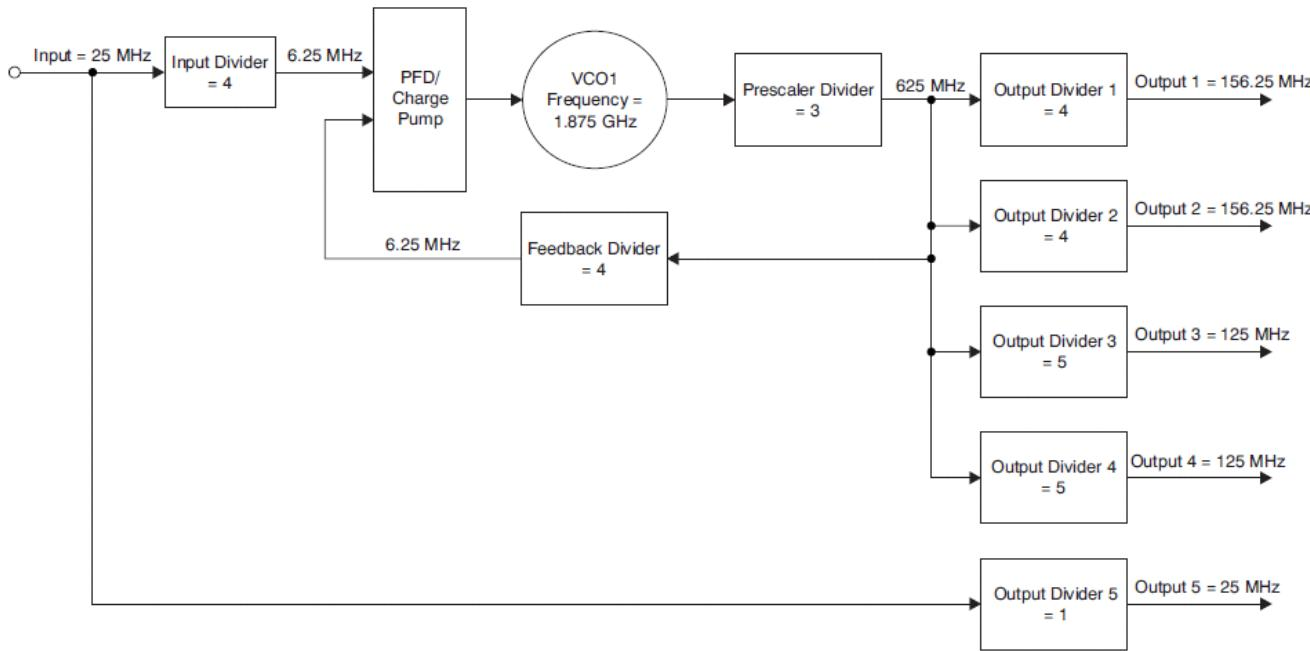

Figure 47. CDCE62005 Settings for Multiple Frequency Synthesis Example
As shown in Figure 47, the CDCE62005 has internal dividers, twin onboard VCOs, a phase frequency detector, charge pump, partially internal loop filter, and LVPECL/LVDS/LVCMS input and output buffers, all of which completes a PLL. Through the PLL operation, the VCO clock synchronizes with the reference clock input and ultimately with all clock outputs. All outputs are completely synchronized in terms of phase and frequency with the reference clock input. When powering up from the EEPROM, the SYNC signal synchronizes outputs after device power-up.
Step 1. From Figure 47, it can be inferred that the relationship between the output frequency and the input frequency is described by these equations,
Figure 47 illustrates this configuration.
(Loop Settings in Figure 47, CP Current at 3.5mA)**